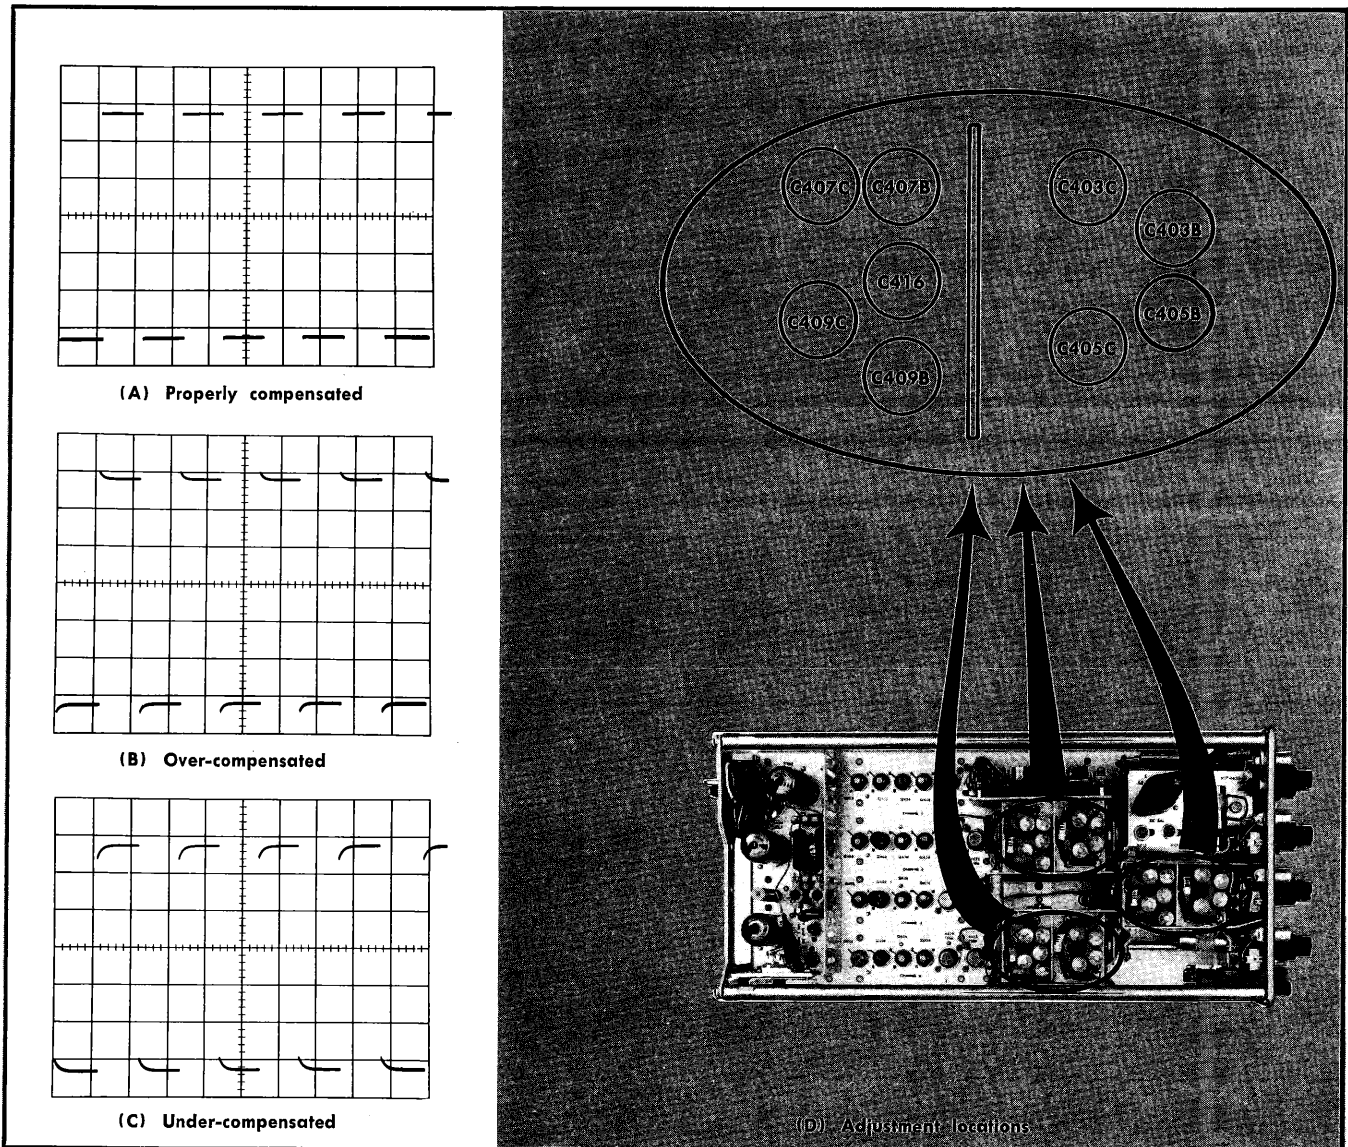

Fig. 5-13. Input capacitance and attenuator compensation waveform pictures and adjustment locations.
g. Connect the 5X attenuator to the HI AMPLITUDE OUTPUT connector of the Square Wave Generator, and adjust the Square Wave Generator AMPLITUDE control as necessary to obtain a five-division square wave display. If an uncalibrated 2B67 is in use, it is possible that a display may not appear. In that event, adjust the 2B67 (TRIGGERING) LEVEL control as necessary to obtain a stable display as in Fig. 5-13.
h. CHECK—Channel 4 Input Capacitance. The top of the square wave should be flat, as in Fig. 5-13 (A). Examples of misadjusted input capacitance are given in Fig. 5-13 (B) and (C).
i. (Calibration Procedure only.) ADJUST—Channel 4 input capacitance. Adjust C416 in Channel 4 as necessary to obtain flatness, using Fig. 5-13 (A) as a guide. Use a metal tipped plastic screwdriver.
j. CHECK/ADJUST—Channel 4 Attenuator compensation. The equipment setup is given in Table 5-5. Check that the top of the square wave is flat in all switch positions. Maintain approximately 5 divisions of display amplitude throughout the procedure. If a calibration procedure is being done, perform the indicated adjustment as necessary before making the next check. The location of adjustments is shown in Fig. 5-13 (D).